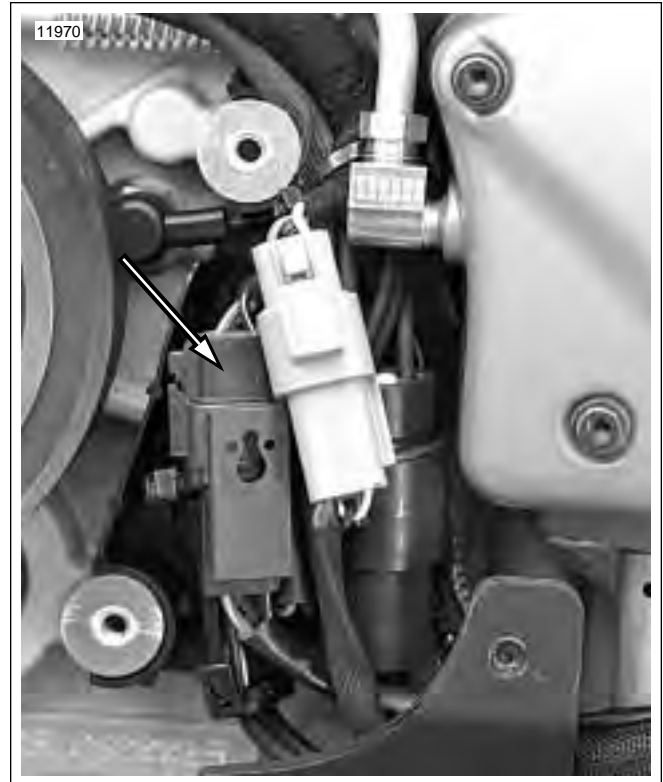

Figure 4-72. Cam Position Sensor Connector [14]
4. See Figure 4-72. Disconnect cam position sensor wiring at connector [14].